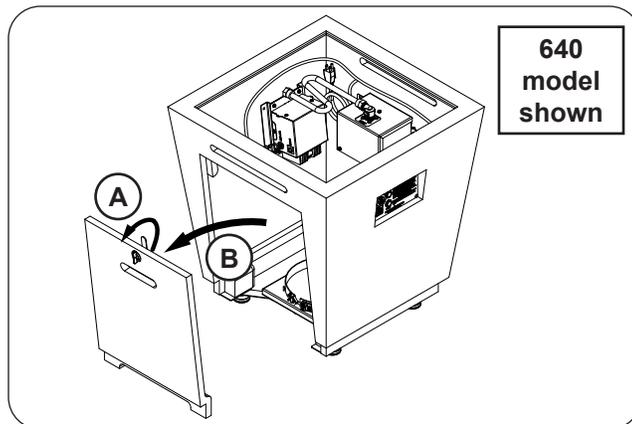

Fig. 35-1 Place base and remove door
1. **Carefully** remove the burner assembly from the base, then **carefully** place the base in an appropriate location (see Fig. 35-1, and refer back to the LOCATION section if needed).
2. Remove the storage door by first turning the door handle counter-clockwise, then carefully pulling the door outward (see Fig. 35-1). Store in a safe location.